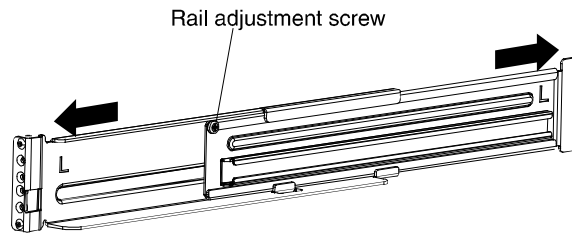

Figure 7. Adjusting the Rail Length
6. Loosen the rail adjustment screw and adjust the left and right rail length to the depth of the rack cabinet, as shown in Figure 7.